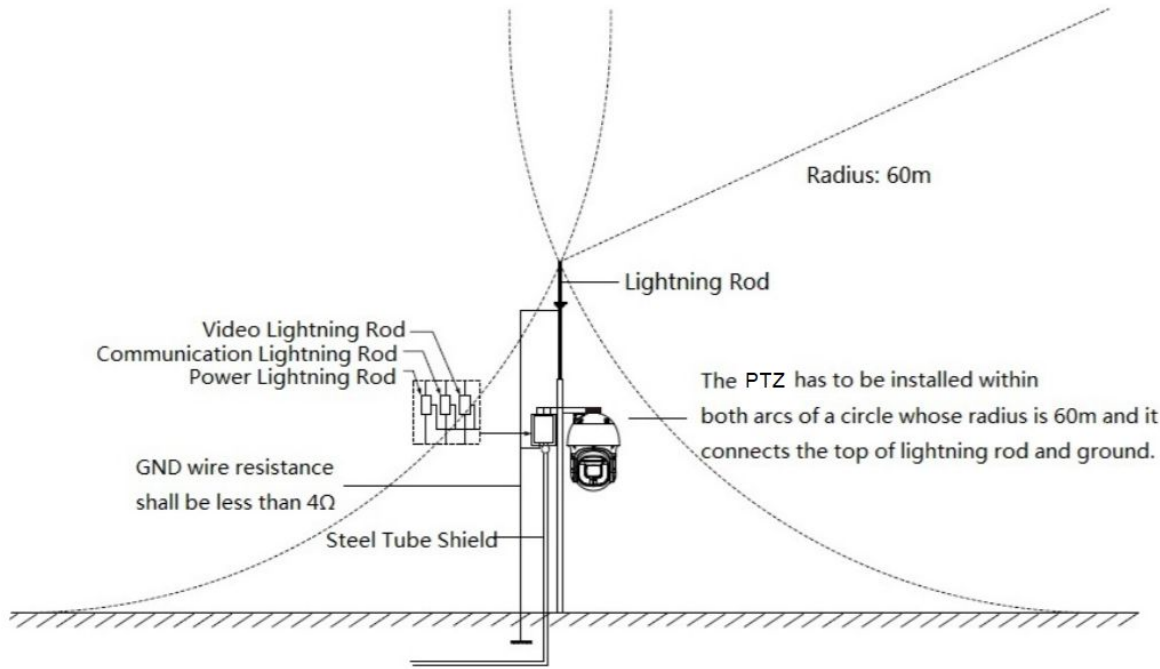

Figure 5-1
- Electrical bonding is recommended. The ground device should meet anti-jamming requirements and conform to your local electrical safety code. The ground device should not short circuit to N (neutral) line of high voltage power grid or mixed with other wires. When connecting the system to the ground alone, the grounding resistance should not be more than 4Ω , and the earth cable cross-sectional area should be no less than 25 mm^2 . See Figure 5-1.